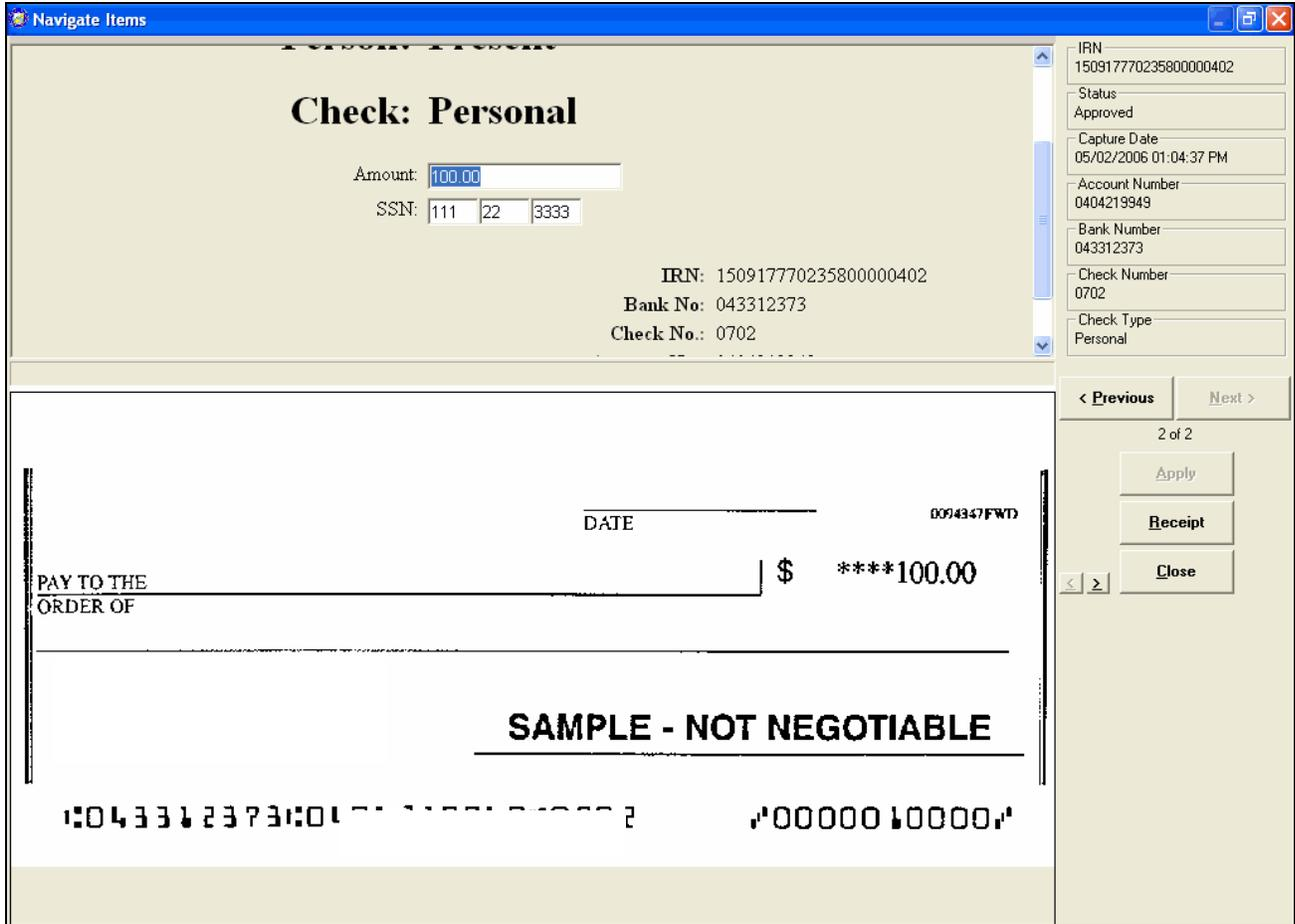

Figure 4.17
2. Click the 'Show Item' button at the top of the screen or click 'Item', then 'Show...' from the menu. The following screen appears: (Figure 4.17)